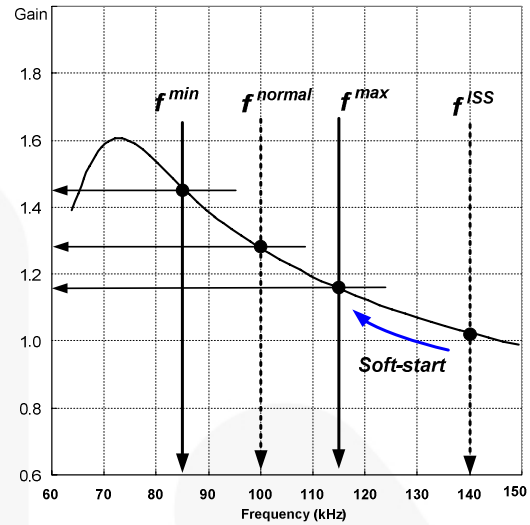
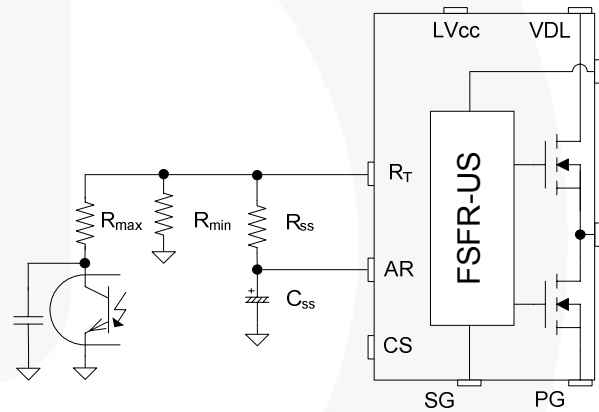
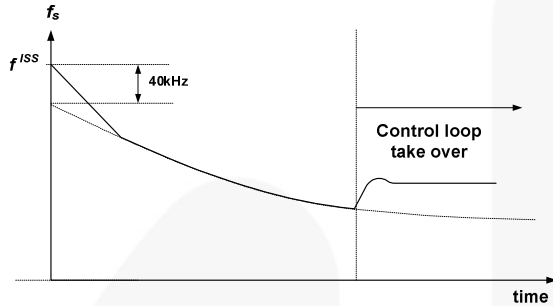

Figure 17. Resonant Converter Typical Gain Curve
Figure 18. Frequency Control Circuit
Figure 19. Frequency Sweeping of Soft-Start
**3. Frequency Setting:** Figure 17 shows the typical voltage gain curve of a resonant converter, where the gain is inversely proportional to the switching frequency in the ZVS region. The output voltage can be regulated by modulating the switching frequency. Figure 18 shows the typical circuit configuration for the  $R_T$  pin, where the opto-coupler transistor is connected to the  $R_T$  pin to modulate the switching frequency.
To prevent excessive inrush current and overshoot of output voltage during startup, increase the voltage gain of the resonant converter progressively. Since the voltage gain of the resonant converter is inversely proportional to the switching frequency, the soft-start is implemented by sweeping down the switching frequency from an initial high frequency ( $f^{ISS}$ ) until the output voltage is established. The soft-start circuit is made by connecting R-C series network on the  $R_T$  pin, as shown in Figure 18. FSFR-US series also has an internal soft-start for 3ms to reduce the current overshoot during the initial cycles, which adds 40kHz to the initial frequency of the external soft-start circuit, as shown in Figure 19. The initial frequency of the soft-start is given as: